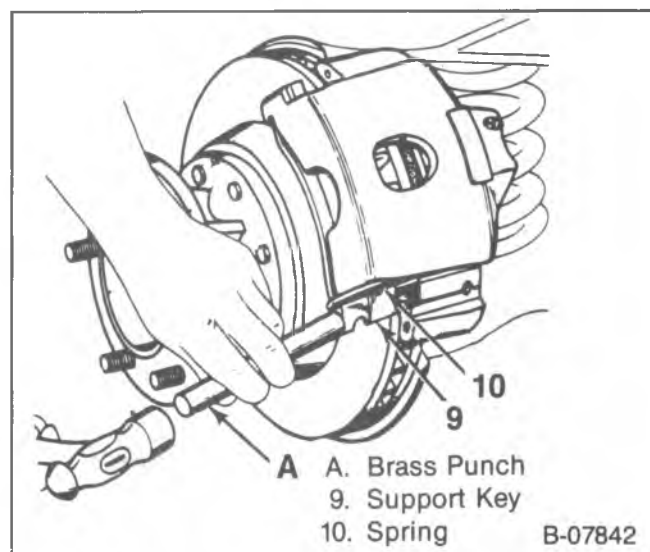

Figure 14—Installing the Support Key
4. Spring (10) and support key (9).
- Use a brass punch and a hammer to drive the support key in (figure 14).